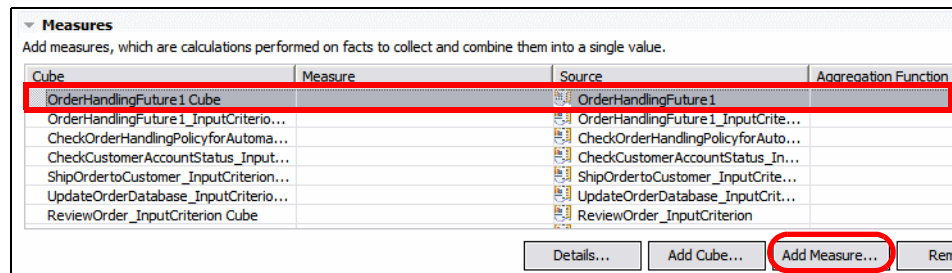

Figure 12-27 Create measure
- ▶ Scroll down to Measures, select OrderHandlingFuture1Cube, and click *Add Measure* (Figure 12-27).